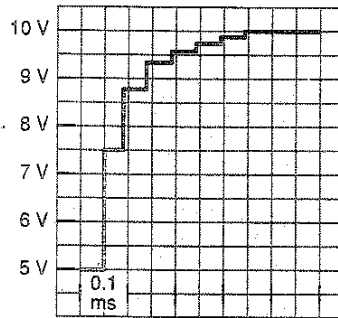

FIGURE 29-1.
7. Eight steps are required to complete a conversion. About 2000 conversions occur per second for 10 V input. See Figure 29-1.